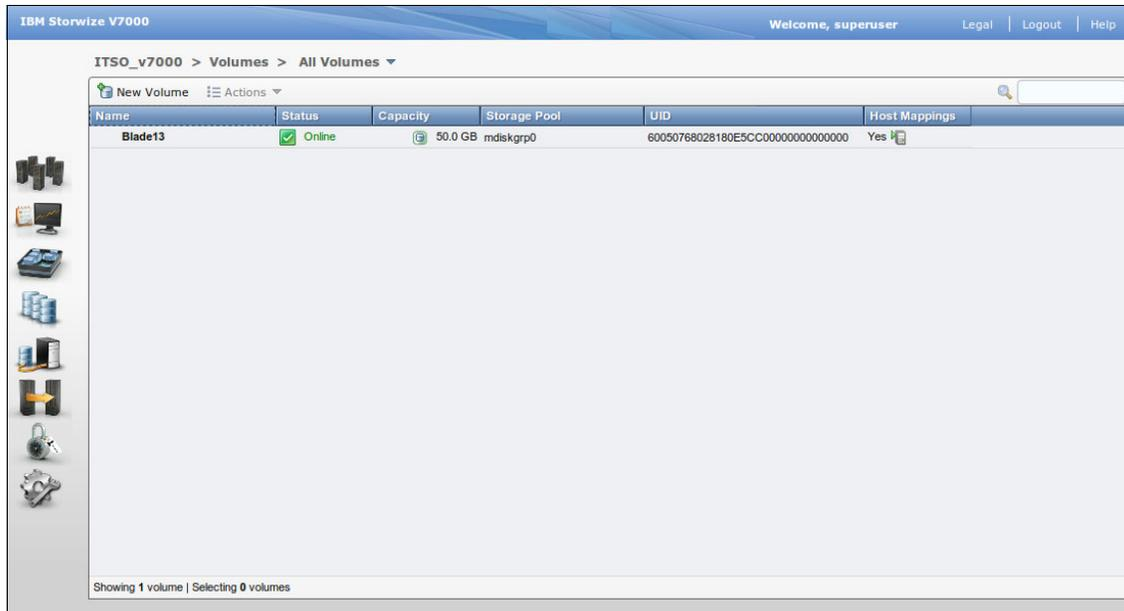

Figure 10-86 IBM Storwize V7000 window
3. Select **All Volumes** → **New Volume** (Figure 10-86).